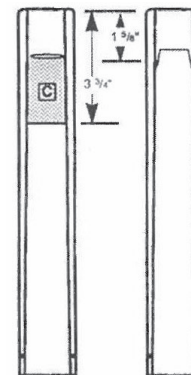

FIG. 2
- C. Magazine Tube Spacer (See Fig. 2)
1. Check the interior length of the forearm stock and use the magazine spacer if needed. (See Fig. 2). Required for 2-3/4" shells.